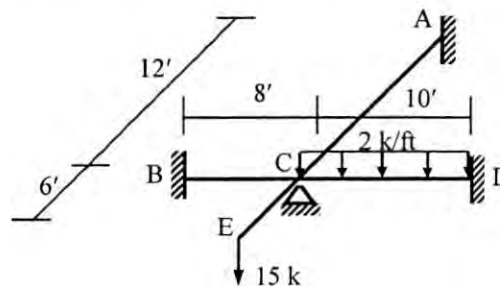

Figure 4
4. Determine the joint rotations at C of the grid loaded as shown in Figure 4 if joint C settled 0.10 inch [Given: $EI = 40 \times 10^3 \text{ k-ft}^2$, $GJ = 30 \times 10^3 \text{ k-ft}^2$].